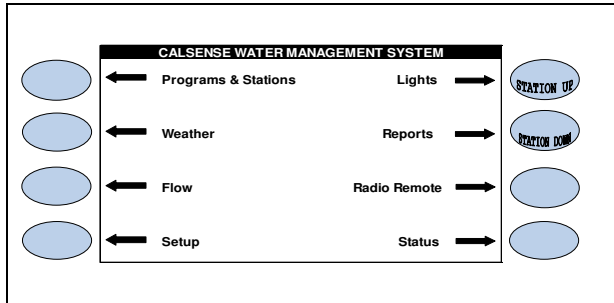

Figure 13
1.  Press the **REPORTS** Menu key (Figure 13).